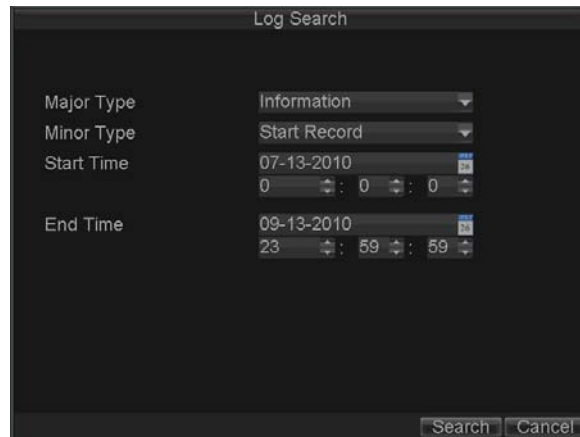

Figure 4. Log Search Menu
3. Click Menu > Maintenance > Log Search to enter the Log Search menu, shown in Figure 4.